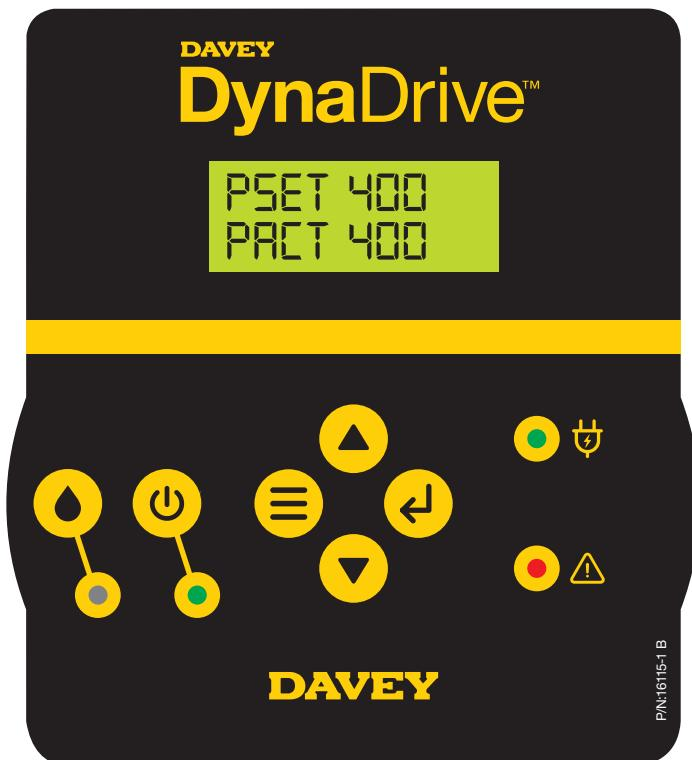

Figure 7.3
- The green  **Automatic LED** will turn off, see figure 7.3;